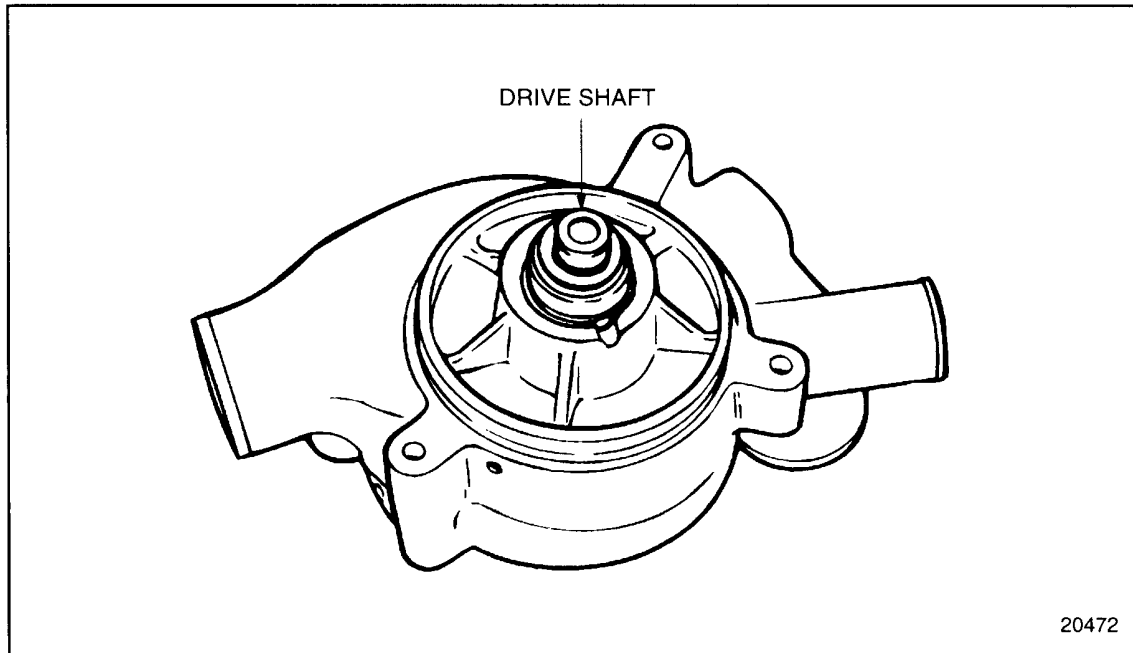

Figure 4-18 Drive Shaft Insertion
7. Install the drive shaft, with bearings installed, to the water pump housing. See Figure 4-18.